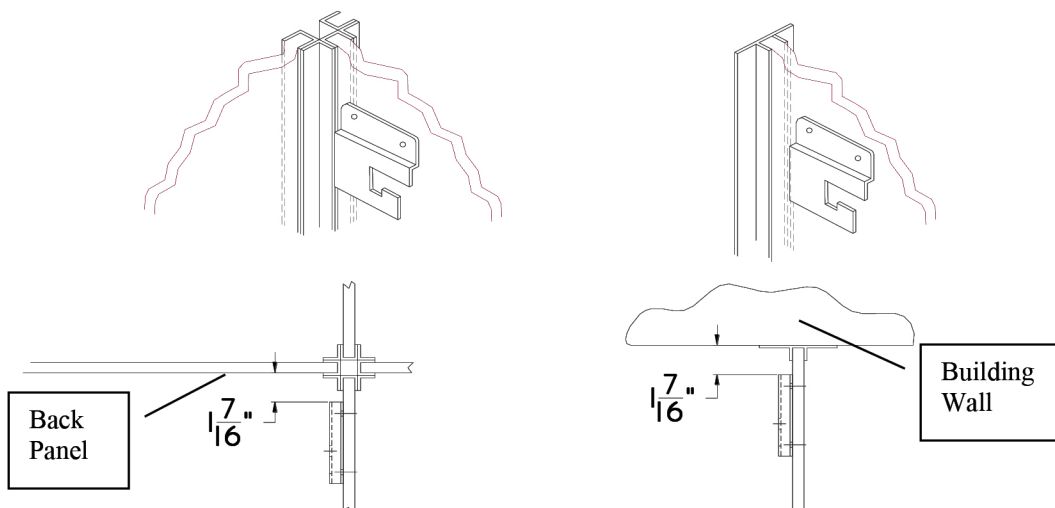

Figure 2.
2. Hold a support bracket so that the rear edge of the bracket is $1 \frac{7}{16}"$ from the back of the run. (Note: on back to back runs the bracket will be against the edge of the aluminum that frames the back edge of the Division Panel) Hold the top of the bracket even with the mark. Mark the wall for drilling through both holes in the bracket. See Figure 2.